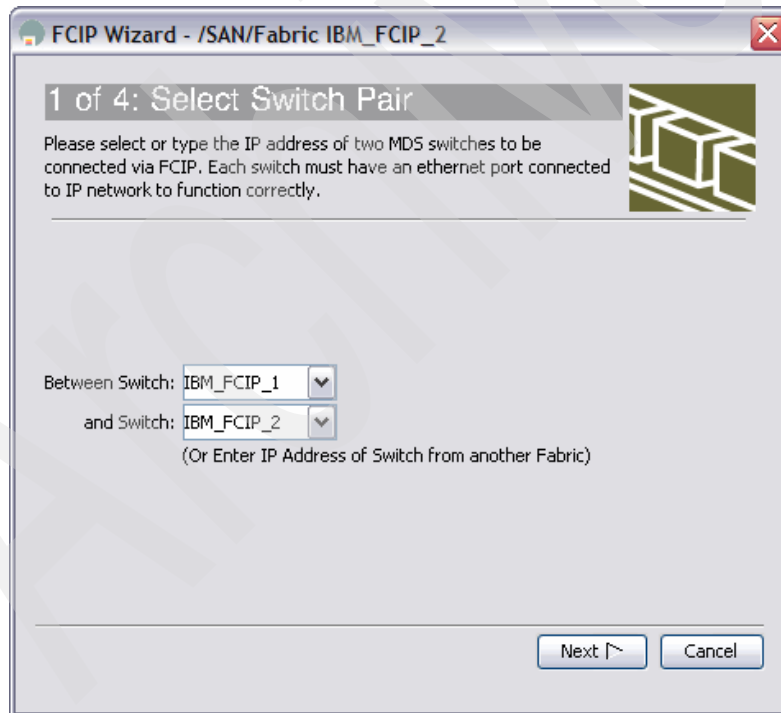

Figure 12-12 FM FCIP Wizard panel 1 of 4
b. In the first panel of the FCIP tunnel wizard (Figure 12-12), we select the switches (or you can enter the IP addresses) between which to configure an FCIP link. Click **Next** after making your choice.